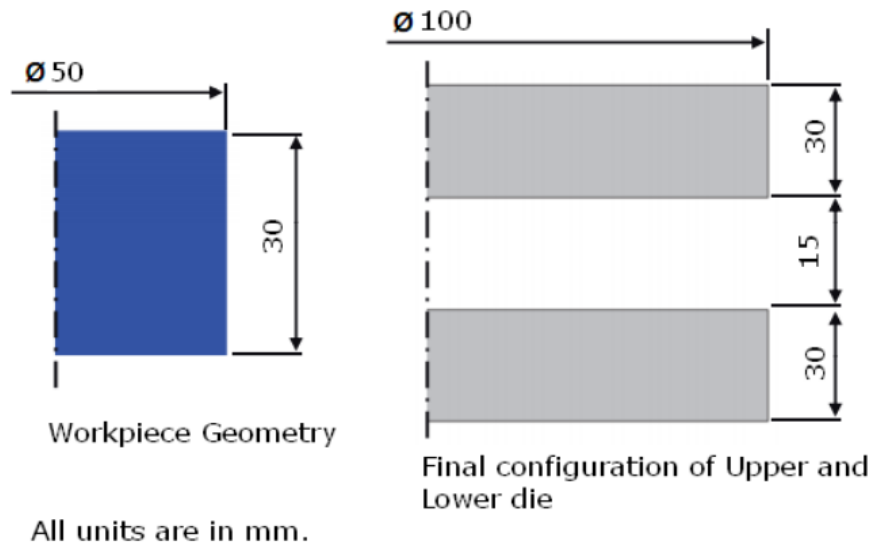

Figure 4: Work Piece and Die Geometry for 2D Simulation
1. Create *cylindrical* work piece geometry with a diameter of 50 mm and a height of 30 mm in 2D (Figure 4)
2. Create *cylindrical* upper and lower die geometry with a diameter of 100 mm and height of 30 mm (Figure 4)